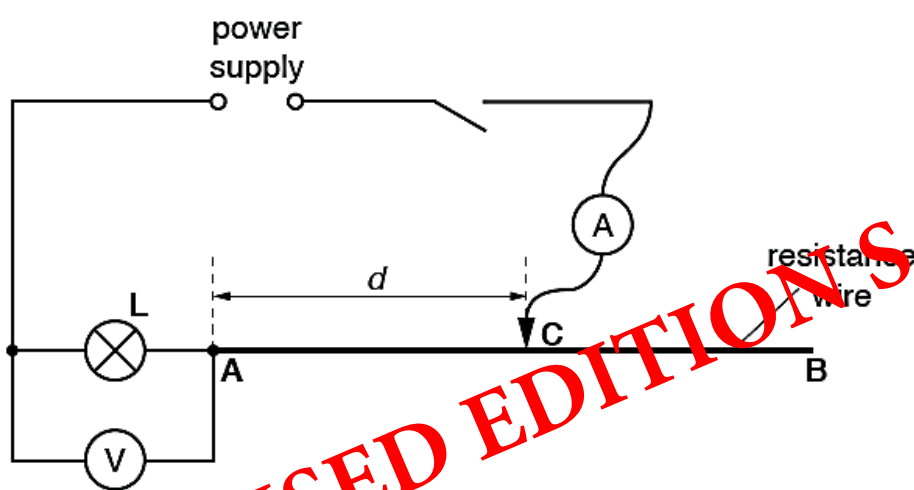

Fig. 41
3. These will be used to construct the circuit shown in Fig. 41. One crocodile clip must be attached to the end of a flying wire to act as a jockey as shown in Fig. 41.